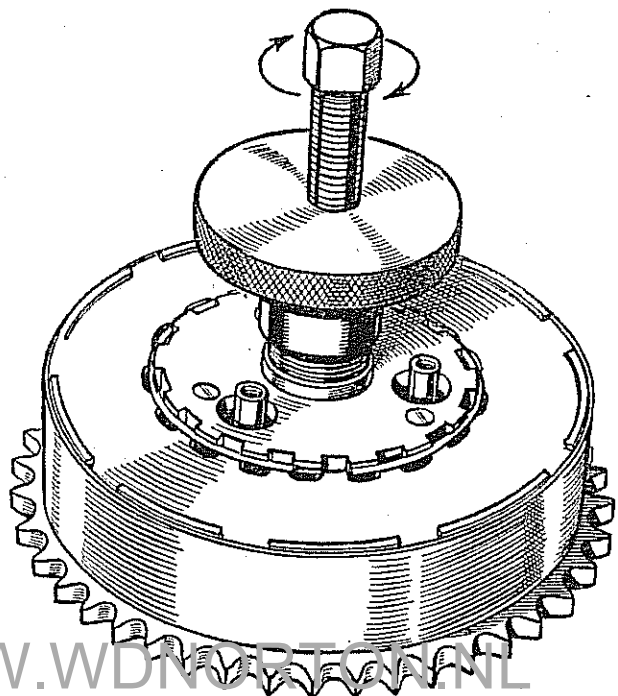

Fig. 23.
- A special tool is required to remove the clutch body. (Fig. 23.)